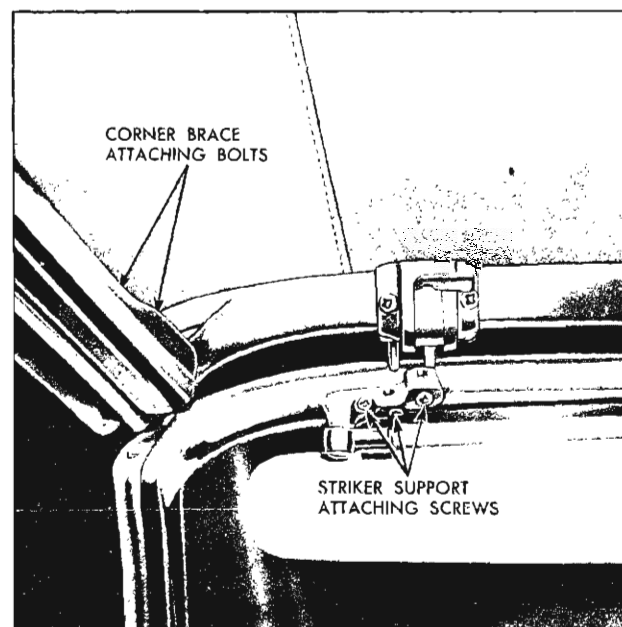

Fig. 109—Front Roof Rail Adjustment
2. Loosen striker support attaching screws and adjust striker laterally as required; then tighten attaching screws (fig. 109).